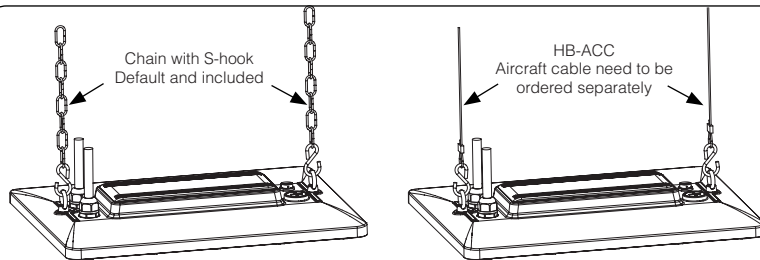

Figure 3
Step1. Attach the S hook of the chain or aircraft cable to the ring of the luminaire. (Figure 3)